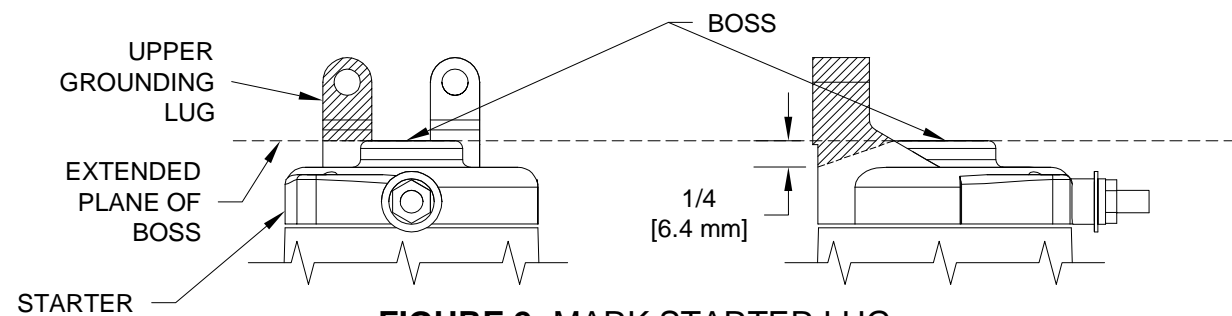

FIGURE 2: MARK STARTER LUG
Step 3: Mark the upper grounding lug on the starter. See Figures 2 and 3.